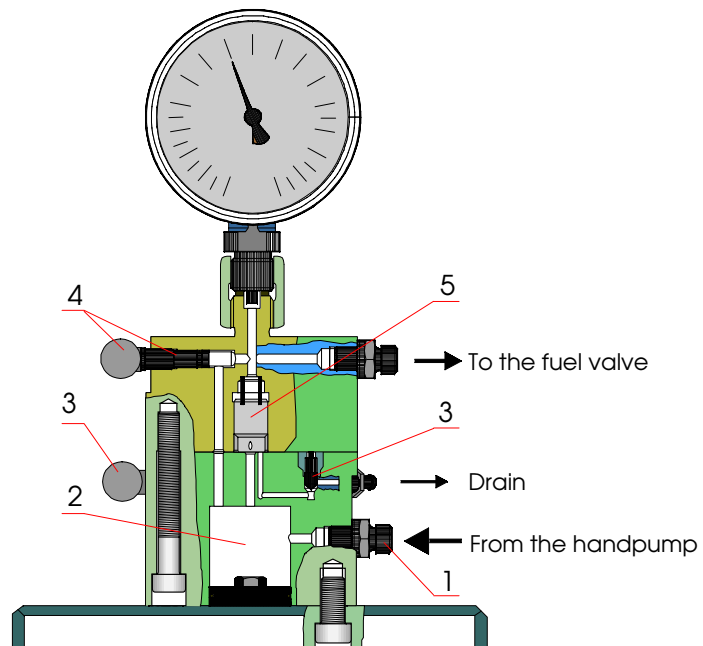

Fig 16-4
- 1 Fuel is supplied** from the hand test pump device through the port (1) to the chamber (2). see Fig 16-4. The first filling of the booster requires about 80 strokes.
- 2 If the booster unit** has not been used, the trapped air is pumped out (requires 5-8 strokes) through the lower valve (3) to the leak channel. Close the valve (3) after venting the booster unit.
- 3 The right pressure wave level** is reached by pumping prepressure to the high pressure line to fuel injector. This is done by opening the valve (4) and pumping with the test pump the pressure little over 200 bar. After this the valve (4) should be closed.